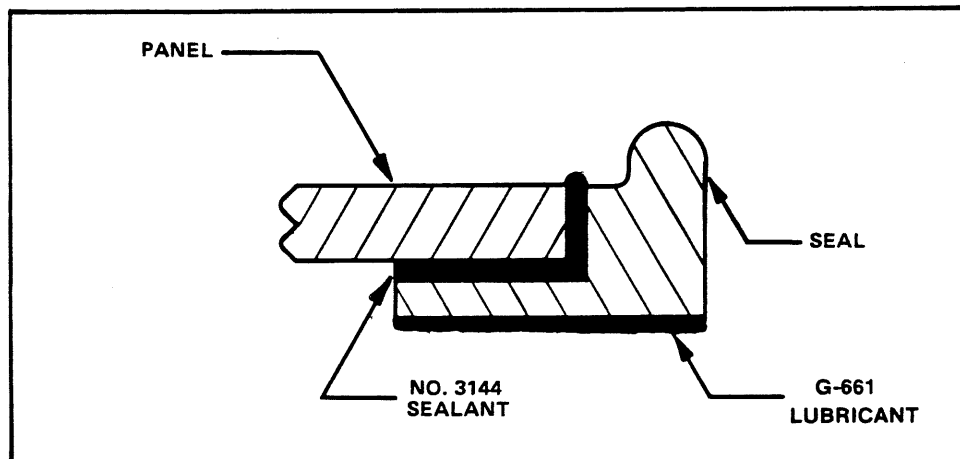

Figure 5. Detail of Plug-In Compartment seal.
STEP 9. Bonding of Plug-in Compartment seal to Front Panel (see Figure 5)**A. SEAL, PLUG-IN**
- (1) 1502 TPN 348-0421-00, MPL Item 2-48.
- (2) 1503 TPN 348-0421-00, MPL Item 2-50.